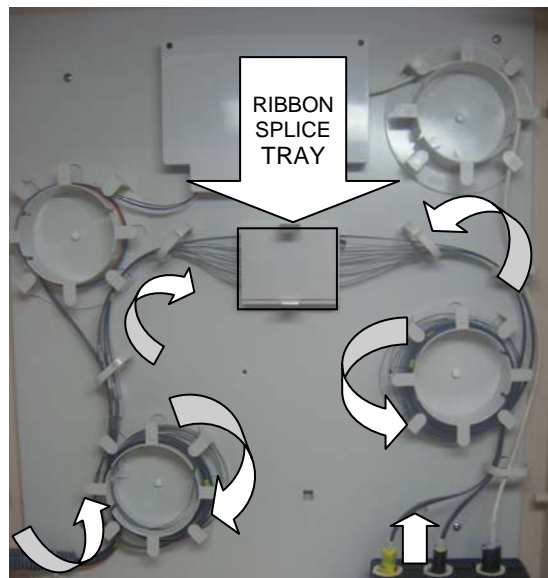

FIGURE 8
20. – Route the fiber ribbons around the lower take-up spools and to the ribbon splice tray as shown on the back panel diagram. (Refer to Figure 8)